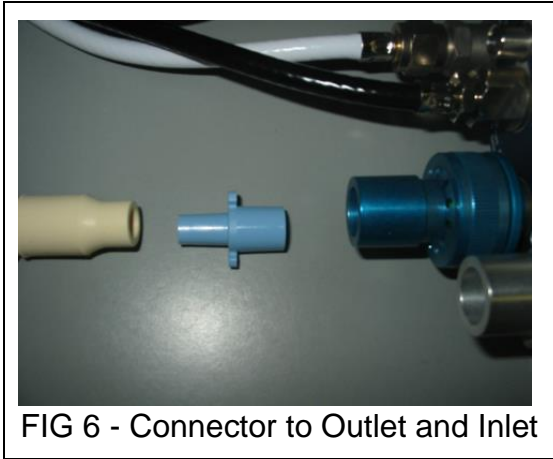

FIG 6 - Connector to Outlet and Inlet
- Connect the expiratory and inspiratory limbs of the extension tubing with specific connectors (Fig 4 and Fig 5) and then insert into the outlets (Fig 6).